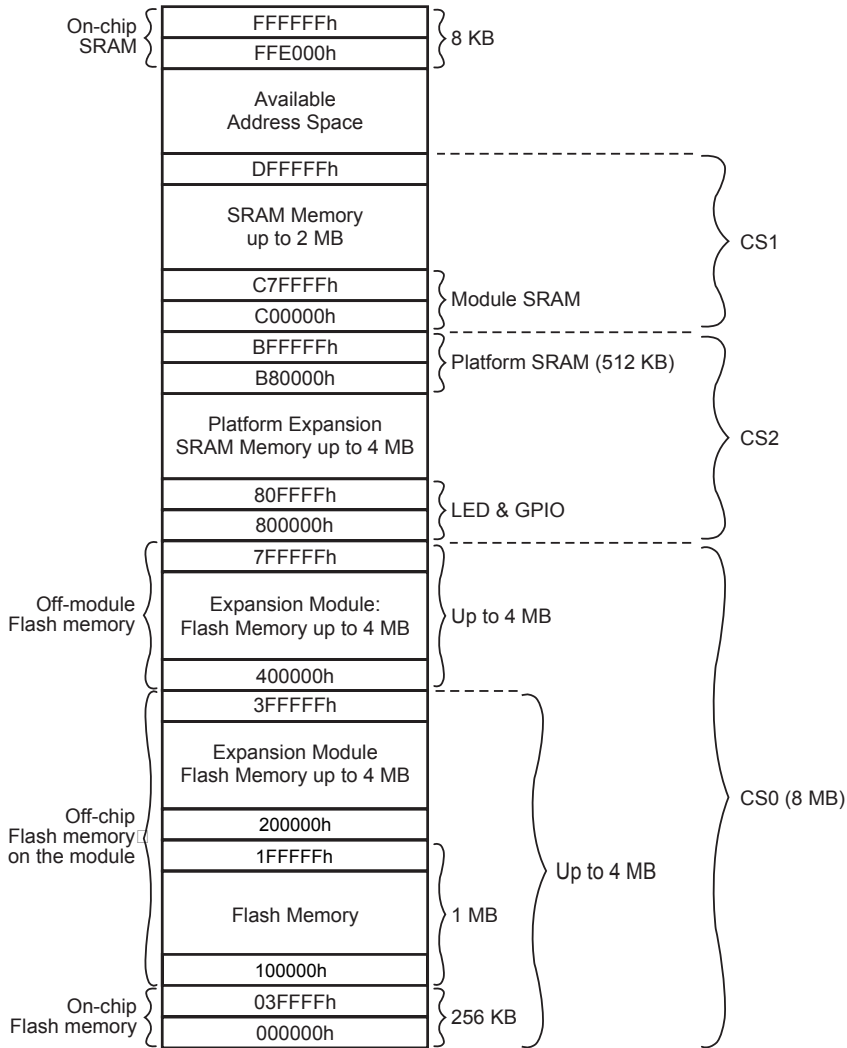

Figure 10. Memory Map of the eZ80[®] Development Kit and eZ80F91 Module
A memory map of the eZ80[®] Development Kit and the eZ80F91 Module is illustrated in Figure 10. Flash memory and SRAM on the eZ80F91 Module are addressed when $\overline{CS0}$ and $\overline{CS1}$ are active Low. SRAM on the eZ80[®] Development Kit is addressed when $\overline{CS2}$ is active Low.
Chip Selects and Wait States. As seen in the memory map in Figure 10, Flash memory is enabled by CS0, on-module SRAM is enabled by CS1, and the remainder of the resources are enabled by CS2. The number of wait states (N) for each Chip Select are indicated in Table 14.